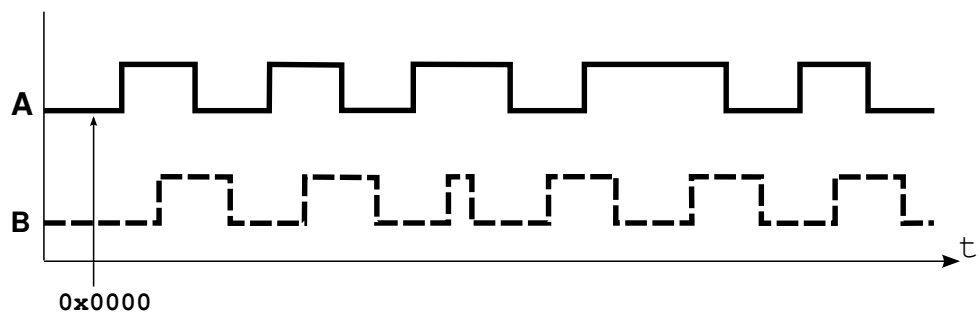

Figure 3: Sample output for pre-lab problem 3b. The 16-bit counter is initialized to 0x0000.
- b. Repeat Part (a) for Figure 3, but assume that the function is running in fast mode now.
- b. Suppose that the wheel is now turned one encoder count in the positive (CW) direction, so that `CURR_FQDPC = 0x0000` and `PREV_FQDPC = 0xFFFF`. What is the new value of `TOTAL` when the incorrect value from part (8a) is updated with faulty casting?